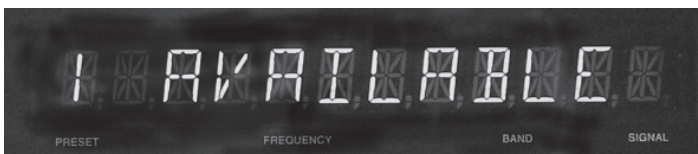

Figure 4
4. Momentarily press and release the Front Panel ENTER push-button. The LED above the ENTER push-button will light and the Front Panel Display will indicate 1 AVAILABLE, which is the first of 9 Preset Numbers that can be assigned. Refer to figure 4.